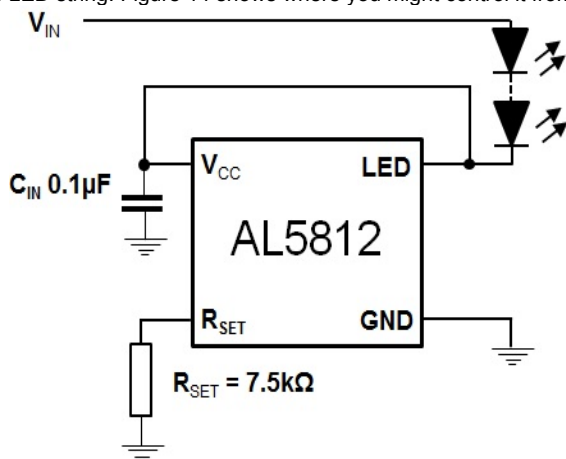
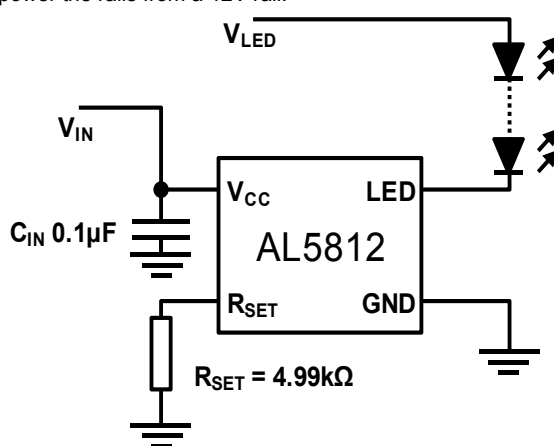
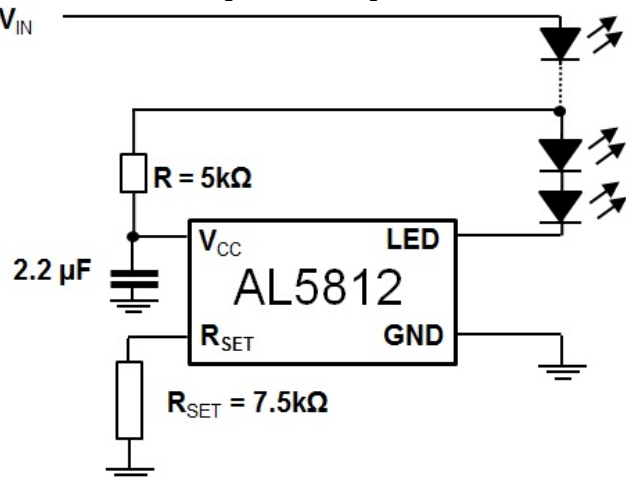
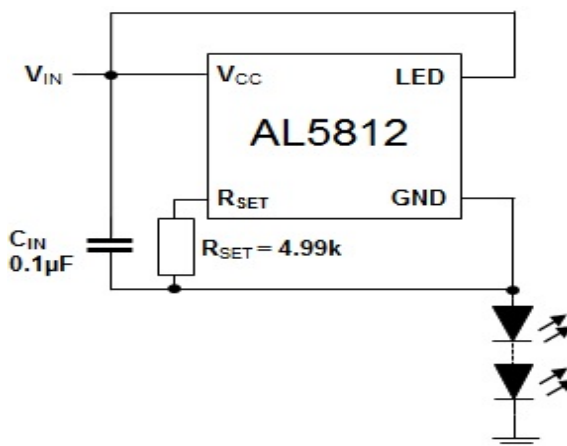

Figure 13 Low Side Current LED Setting
Figure 14 Low Side Drive – Separate Supplies
Figure 15 Low Side LED String Tapping
Figure 16 High Side Current LED String
13. The AL5812 has its V_{CC} pin connected to its LED pin, which are connected to the positive input supply voltage. R_{SET} is connected to AL5812 GND pin, which is connected to the anode of the LED chain. This creates a high side driver of the LED chain. See Figure 15.
The AL5812 is a Linear LED driver and in normal operation has the LEDs connected to the same potential as its V_{CC} pin and regulates the LED current by sinking current into to its LED pin see Figure 13.
The AL5812 with its 60V capability on its supply pin, V_{CC} , and its LED drive pin allows it to operate from supply rails up to 60V and/or directly drive LED chains up to 60V as shown in Figures 13 and 14. The voltage applied to the V_{CC} pin can be greater or lower than the voltage applied to the LED string. Figure 14 shows where you might control it from a 5-V rail but power the rails from a 12V rail.
An extension of Figure 14 is to derive the power for the AL5812 from the LED chain itself see Figure 15. LED chains greater than 60V can be driven in this manner as long as PWM dimming is not utilized.
Figure 15 shows the use of RC delay to match the power time delay between V_{CC} and LED pin. The AL5812 can also be used on the high side of the LEDs, see Figure 16. This is a simple way of extending the maximum LED chain voltage, however, it does increase the minimum system input voltage to: